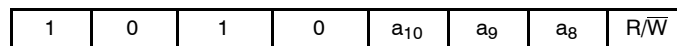

Figure 3. Slave Address Bits
The Master addresses a Slave by creating a START condition and then broadcasting an 8-bit Slave address (Figure 3). The four most significant bits of the Slave address are 1010 (Ah). The next three bits are internal address bits, a_{10} , a_9 , a_8 . The last bit, $R/\overline{W}$, instructs the Slave to either provide (1) or accept (0) data, i.e. it specifies a Read (1) or a Write (0) operation.